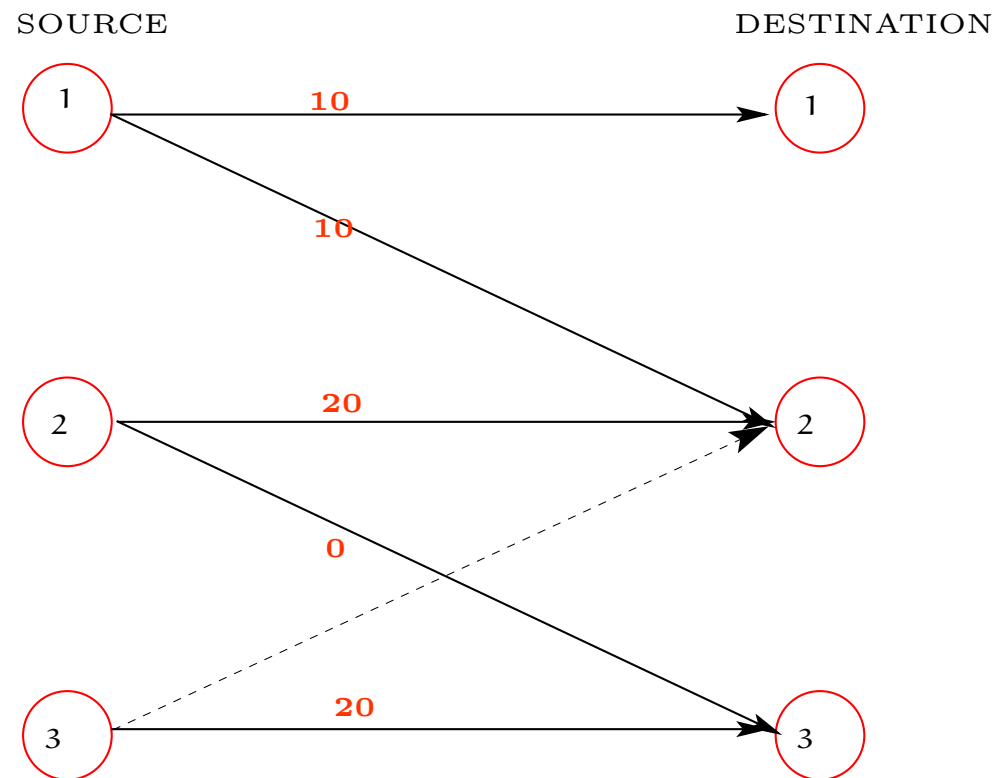

Figure 7: Introducing a New Shipping Route.
- The loop in Fig. 7 is $S_3 \rightarrow D_2 \rightarrow S_2 \rightarrow D_3 \rightarrow S_3$.